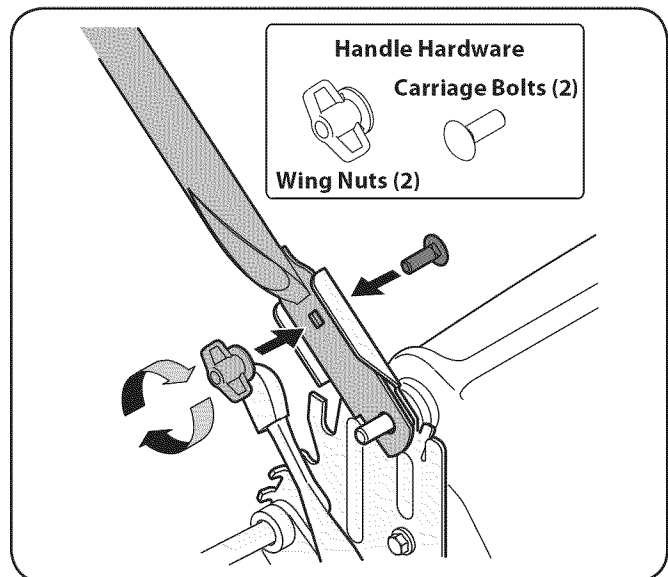

Figure 3-2
2. Insert a carriage bolt found in the manual bag into the upper hole on the handle mounting bracket. Secure with one plastic wing nut, also included in the manual bag. See Fig. 3-2. Repeat on other side with remaining hardware.